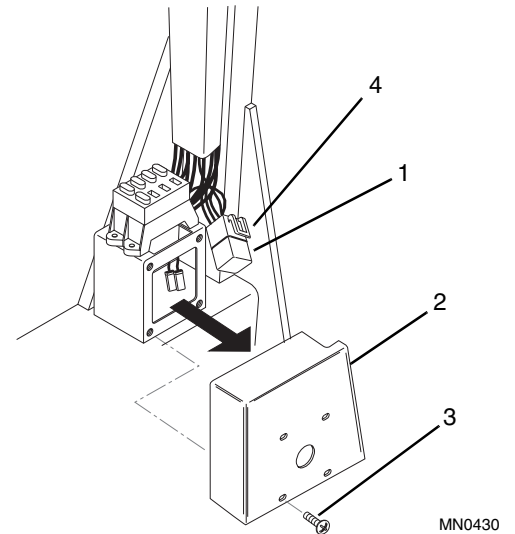

Figure 8-42 Loader Arm Lockout Relay Location
The loader arm lockout relay (Fig. 8-42, 1) is located behind a panel (2) on the left side of the Operator's Protective Structure.
2. Access the relay (Fig. 8-42, 1) by removing four phillips drive screws (3) and remove the panel (2).
3. Remove the relay (Fig. 8-42, 1) from the harness socket (4).
7. Reinstall the left panel in the Operator’s Protective Structure (Fig. 8-42, 2).